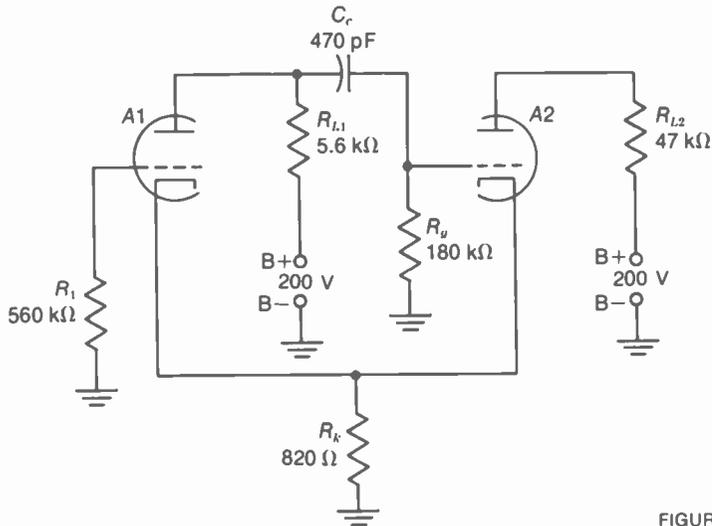

FIGURE 20-21 CATHODE-COUPLED MULTIVIBRATOR.
As shown in Fig. 20-21, the coupling for feedback from A2 to A1 is produced by the common-cathode resistor  $R_k$ . As a result, this MV circuit is unsymmetrical. A2 must be cut off for a longer time than A1 because A2 has the  $R_k C_r$  coupling circuit, while A1 does not.
**How A2 is cut off.** Referring to Fig. 20-21, when plate voltage is applied, both tubes start to conduct. The flow of plate current in A1 reduces its plate voltage, driving the grid of A2 negative.
7. In the cathode-coupled multivibrator in Fig. 20-21,  $A_1$  cuts off  $A_2$  through the  $R_g C_r$  coupling circuit, but  $A_2$  cuts off  $A_1$  through  $R_k$ . The output is unsymmetrical, as  $A_2$  is cut off a relatively long time and conducting a short time. Therefore, a sawtooth capacitor can be connected in the plate circuit of  $A_2$ , serving as a discharge tube, to provide sawtooth voltage output at the multivibrator frequency. An emitter-coupled MV with transistors corresponds to the cathode-coupled MV.